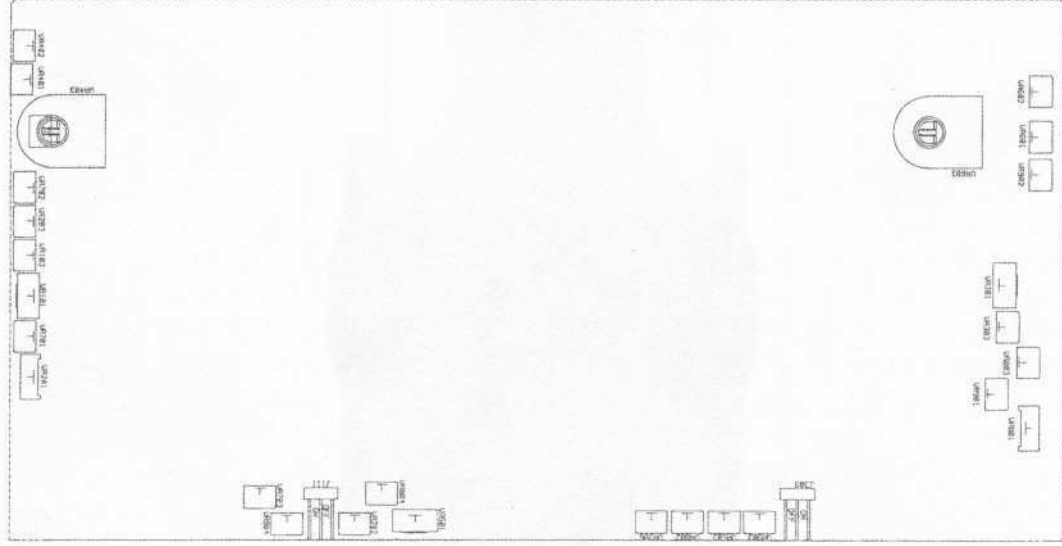

Fig. 6-1. Adjustment Location
(4) Dynamic Load Operation & Application
A. When select to dynamic load position, the max peak current is at 1.7 times rating current. The features are only applied for audio circuit of amplifier and audio production lines. Change the position of wafer J111 of CH1 and J309 of CH2 from "OFF" to "ON". Please refer to Fig.6-1 Adjustment Location.
(5) Output ON/OFF Action
If readjustment is required, use the following procedure. The location of the adjustments is shown in Fig. 6-1.